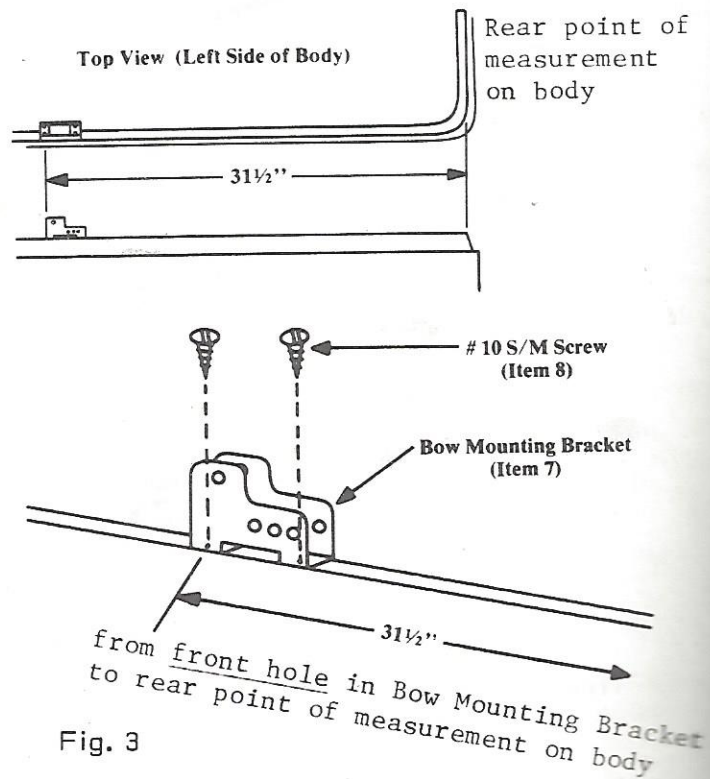

Fig. 3
1. Mark the location for the front hole in each Bow Mounting Bracket by measuring 31 1/2" from the rear point of measurement on body. Mark with a pencil. See Figure 3.
3. Center punch the marks and drill 5/32" holes at these locations. Fasten Bow Mounting Bracket to the top edge of the body with two #10 Sheet Metal Screws. See Figure 3.